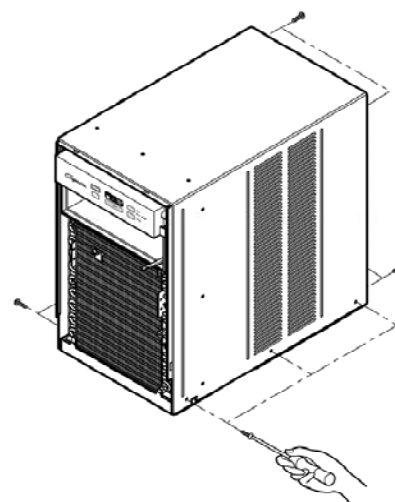

Figure 2
2. Remove protective backing from Window Track Seal and apply seal to window track. (Fig.2)
3. Measure and lightly mark a line 8-1/4 inches from window jamb. Center the Support Bracket assembly on the window track and fasten with 4 Type C screws. (Fig. 2)
1. After disassembling the FRONT GRILLE, remove the 6 screws which fasten the cabinet at both sides.(See Figure 2)